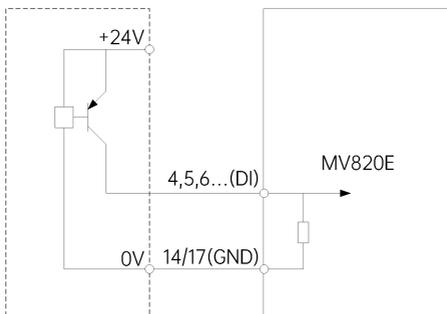

Fig. 4-15 Wiring diagram with PNP and using the external power supply
- ③ When the external power supply is used and the external controller is the PNP common emitter output, the wiring is shown in Fig. 4-15.